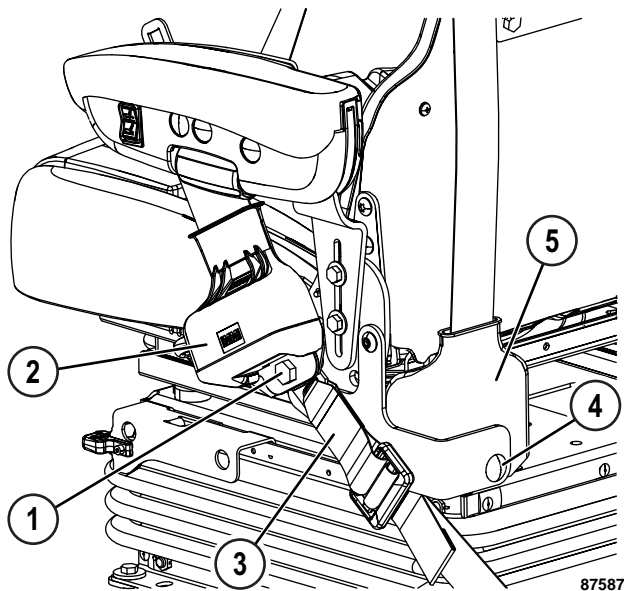

FIGURE 50-34. LOWER SEAT BELT MOUNT
1. Remove capscrew (1, Figure 50-34) that secures lap belt retractor (2) and seat tether (3) to the seat.
2. Remove carriage bolt (4) that secures shoulder belt retractor (5) to the mounting bracket.